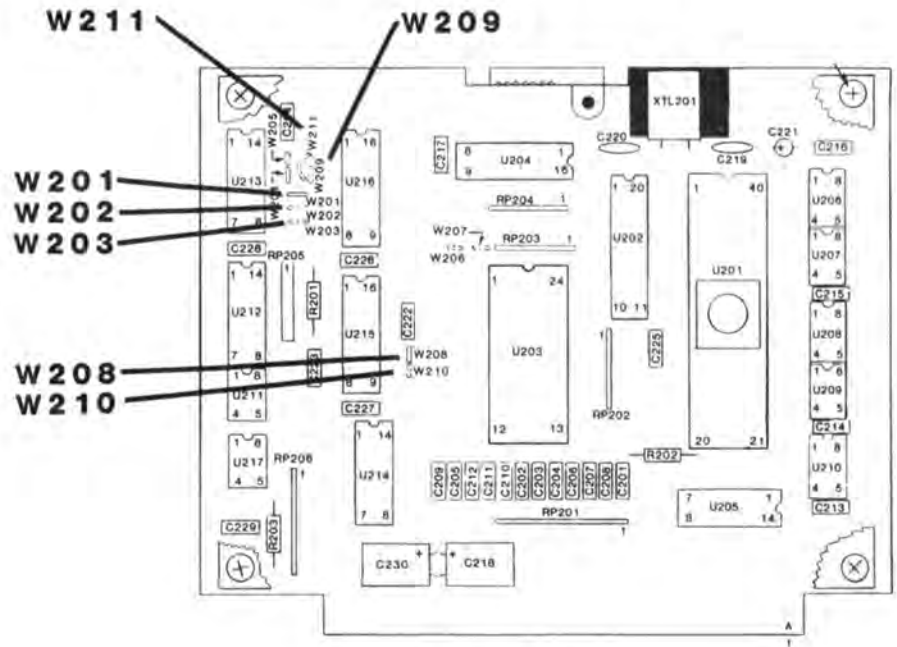

Fig. 2-14
A. Motor Speed: Standard motor speed is set at 7 1/2 IPS unless otherwise specified. Units may be changed to operate at 3 3/4 IPS or 15 IPS by installing jumpers located on the Reproduce Logic PCB. Refer to Figure 2-14 and Table 2-14 for exact location and jumper change instructions.
B. Capstan Shaft Diameter: Standard capstan shaft diameter is 10 mm. In cases where it becomes necessary to install a motor with an 8 mm diameter shaft, make a strap change on the Reproduce Logic PCB. Figure 2-14, Table 2-15.